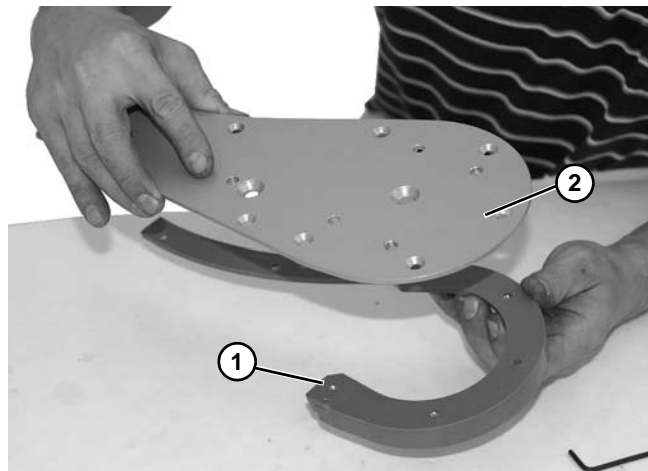

Figure 131
2. Remove retaining guide (Figure 131, item 1) from idler head plate assembly (Figure 131, item 2). Replace components, as needed.